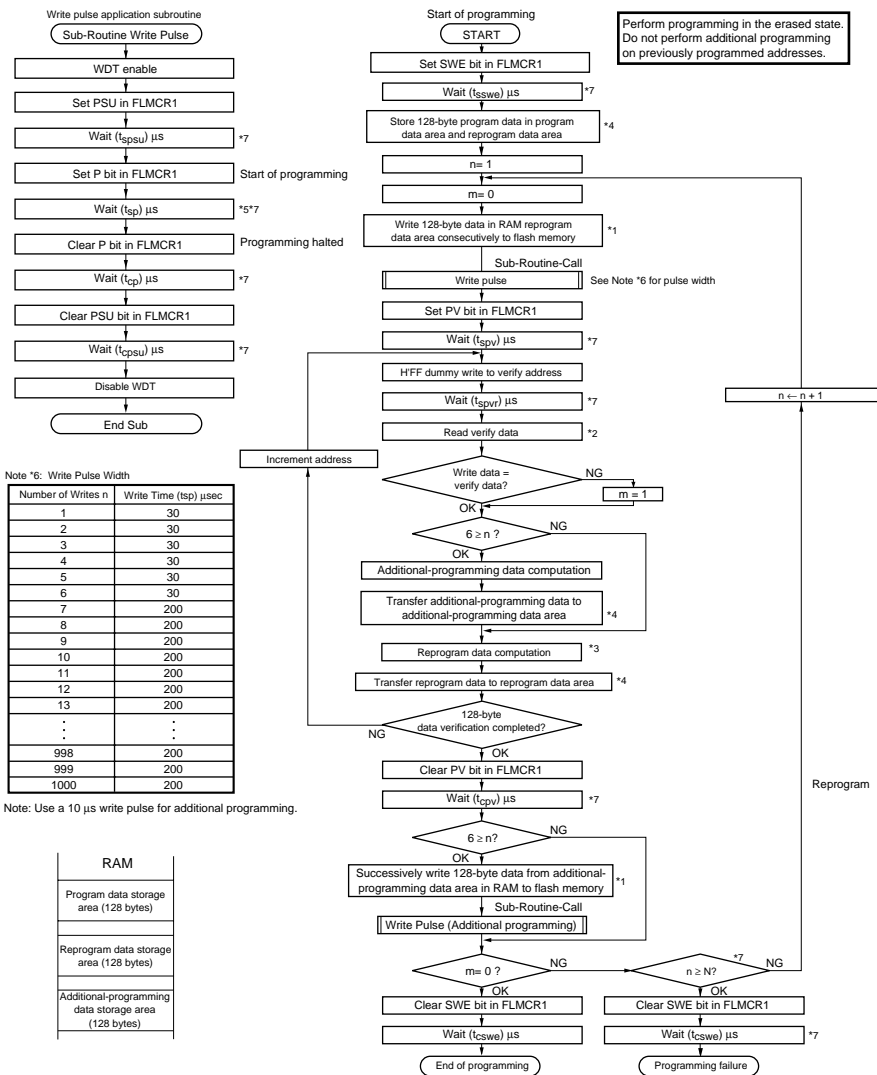

Figure 18.11 Program/Program-Verify Flowchart (128-Byte Programming)
When writing data or programs to flash memory, the program/program-verify flowchart shown in figure 18.11 should be followed. Performing programming operations according to this flowchart will enable data or programs to be written to flash memory without subjecting the device to voltage stress or sacrificing program data reliability. Programming should be carried out 128 bytes at a time.
After the elapse of the given programming time, clear the P bit in FLMCR1, then wait for at least (t_{cp}) μ s before clearing the PSU bit to exit program mode. After exiting program mode, the watchdog timer setting is also cleared. The operating mode is then switched to program-verify mode by setting the PV bit in FLMCR1. Before reading in program-verify mode, a dummy write of H'FF data should be made to the addresses to be read. The dummy write should be executed after the elapse of (t_{spv}) μ s or more. When the flash memory is read in this state (verify data is read in 16-bit units), the data at the latched address is read. Wait at least (t_{spvr}) μ s after the dummy write before performing this read operation. Next, the originally written data is compared with the verify data, and reprogram data is computed (see figure 18.11) and transferred to RAM. After verification of 128 bytes of data has been completed, exit program-verify mode, wait for at least (t_{cpv}) μ s, then clear the SWE bit in FLMCR1. If reprogramming is necessary, set program mode again, and repeat the program/program-verify sequence as before. The maximum number of repetitions of the program/program-verify sequence is indicated by the maximum programming count (N). Leave a wait time of at least (t_{cswe}) μ s after clearing SWE.
- 6. The program/program-verify flowchart for the H8/3024F-ZTAT version is shown in figure 18.11.